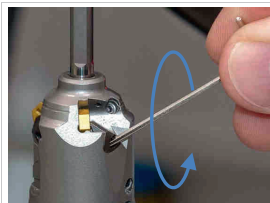

Fig. 4: Loosening the clamping screw
2. Loosen the clamping screw with a suitable Allen key by turning the clamping screw **approx. 1½ turns** anti-clockwise (see Fig. 4: *Loosening the clamping screw*).